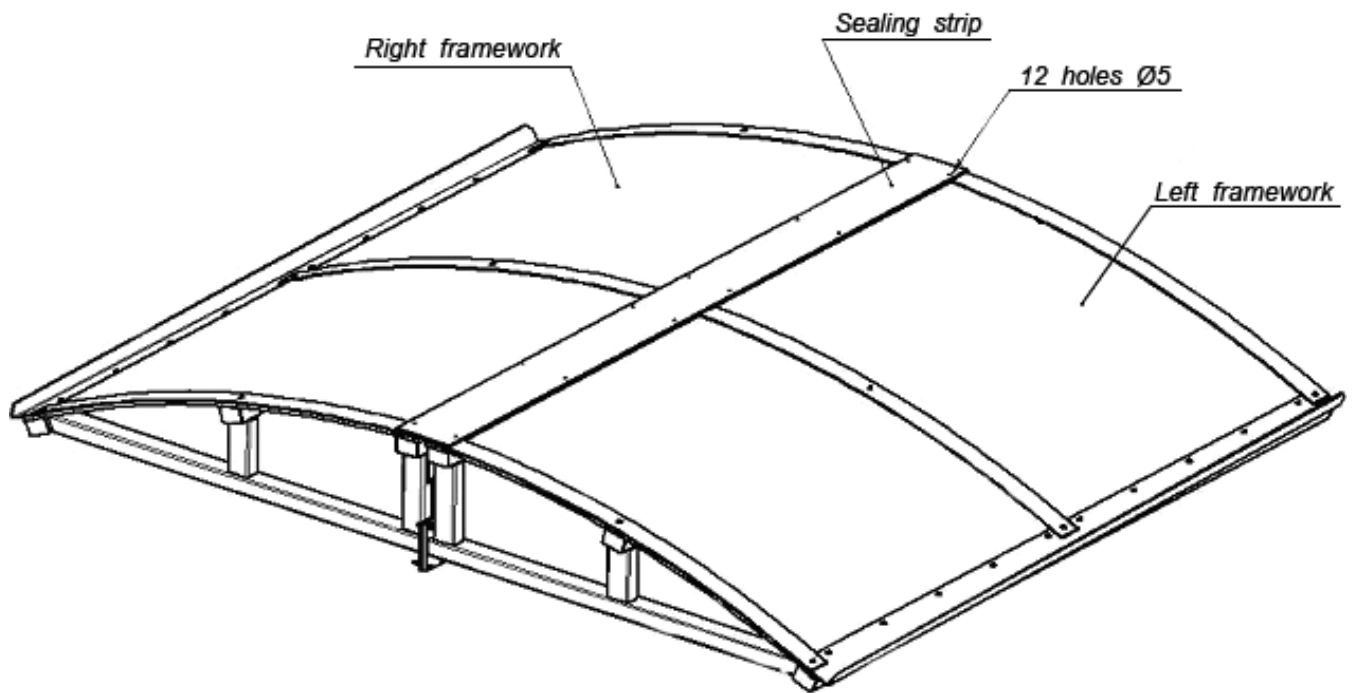

Fig. 5. Assembled roof
8.2.11 Lay the jointing strip along the joint line, the sealing element down. Drill 12 Ø3,5 mm holes 9 mm deep for the 4,2x16 self-tapping screw through the 12Ø5 mm holes in the strip (Fig. 5). Fix the strip on the roof sections with the screws.